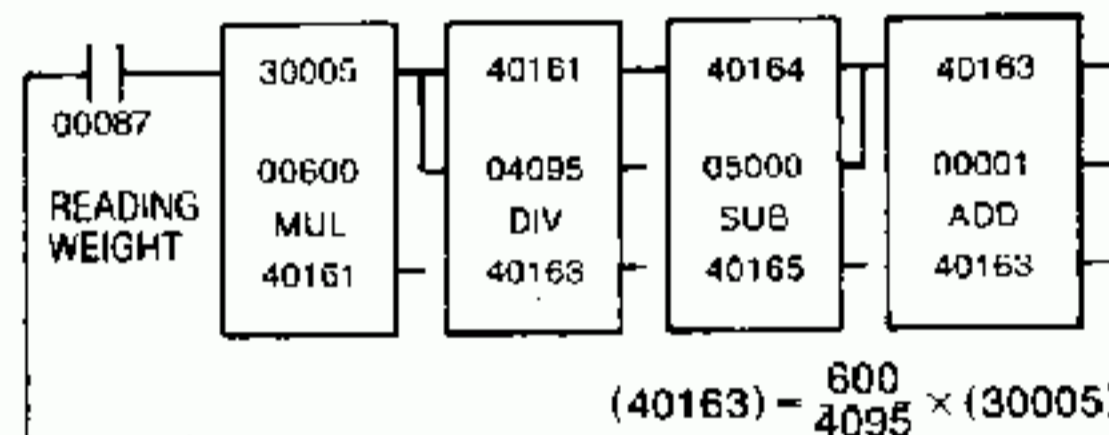

Fig. 4.36
- The numeric data of 0 to 4095 entered in 30005 can be converted to a value of 0 to 600 (tons) by using the ladder circuit shown in Fig. 4.36.